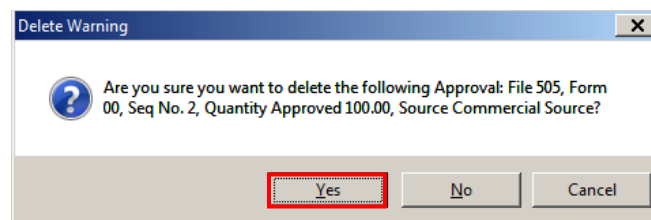

Figure 6-22. Delete Approval Warning Window
5. Click the **Yes** button in the Delete Warning message (Figure 6-22).